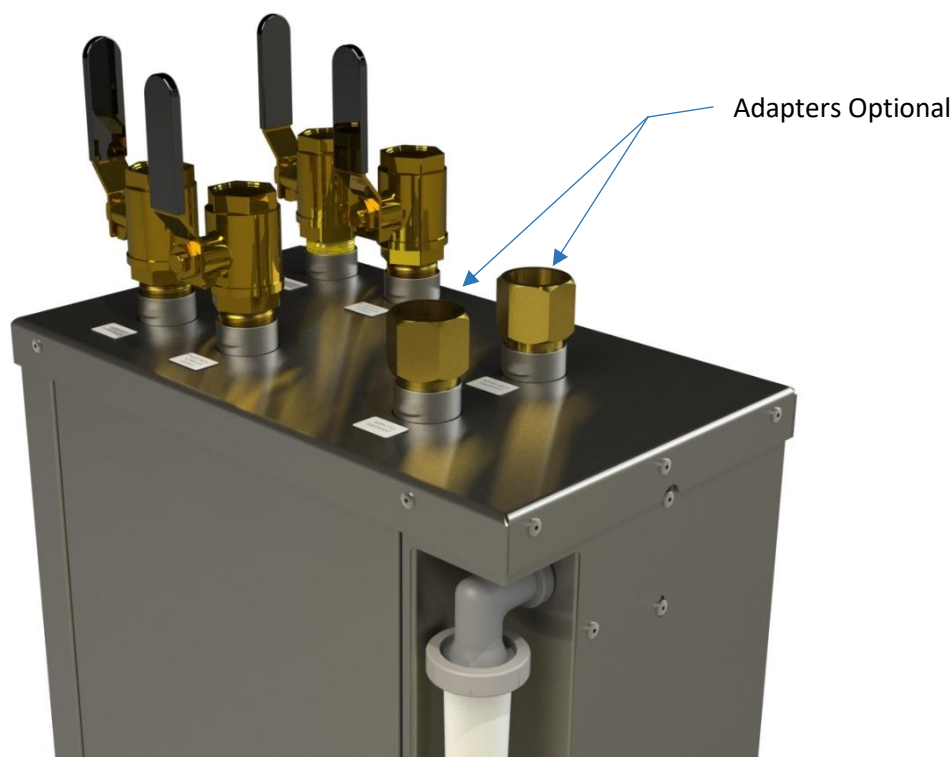

Figure 1: Piping Connections
2. The Manual Switch-Over Panel is designed to be installed indoors only. The Manual Switch-Over Panel must be installed in the piping connecting the Chiller System, alternate cooling fluid supply and the main process. The connections on the Manual Switch-Over Panel are shown in Figure 1.